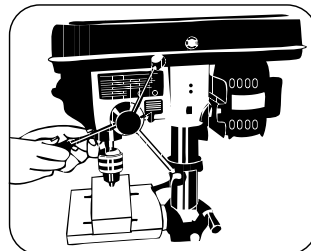

FIGURE 7.6
- Screw the feed handles in the holes on the pinion shaft (Figure 7.6)